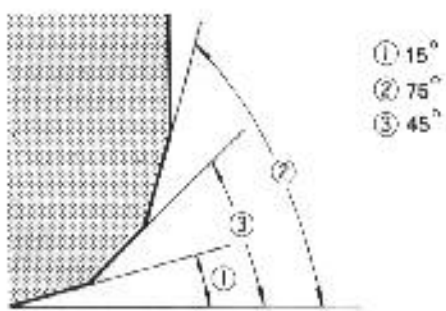

Fig. 3-67 Valve seat angles for exhaust valve seat
1) EXHAUST VALVE SEAT: Use a valve seat cutter to make three cuts in the order illustrated in Fig. 3-67. Three cutters must be used: the first for making the 15° angle, the second for making the 75° angle and the last for making the 45° seat angle. The third cut $\textcircled{3}$ must be made to produce the desired seat width \textcircled{w}